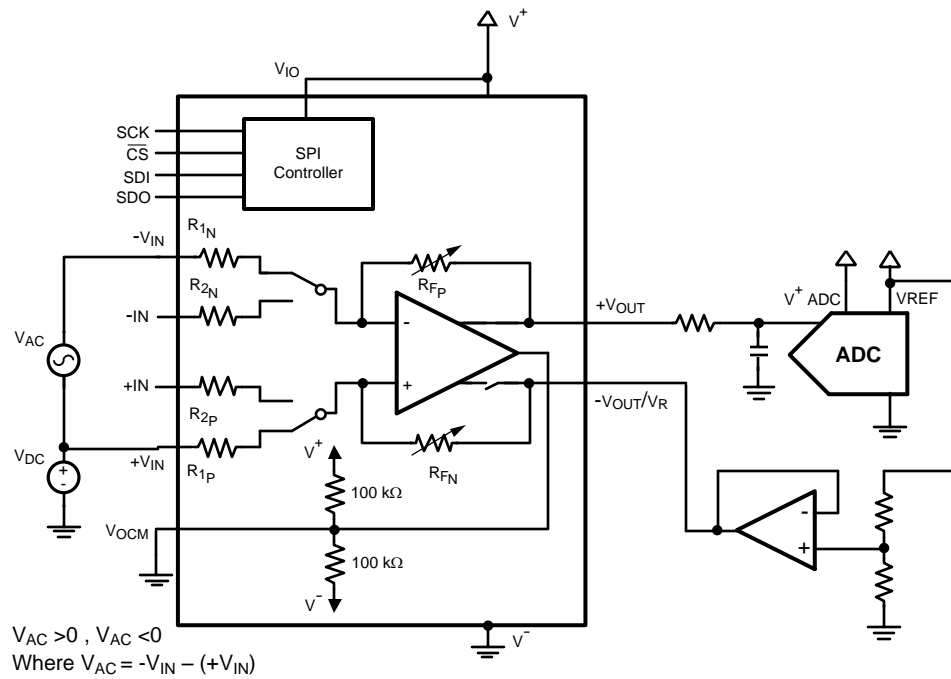

Figure 3. Bipolar Input Signal to Single-Ended ADC Interface
1. In the case of bipolar input signal the non inverting output will be connected to an external reference through a buffer (Figure 3).